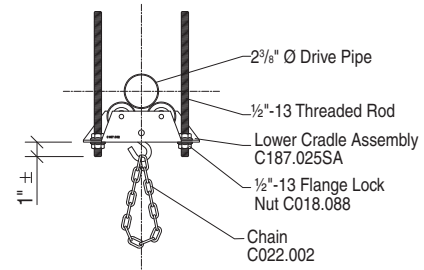

Figure 1
- ① Verify overall height and width with shop drawing to determine possible discrepancies.
- ② Attach winch support brackets to winch housing and install winch per location shown on shop drawing.
- ③ Install drive pipe support assembly (typically Z-Bracket and Flange Clamps) per locations shown on shop drawing.
- ④ Attach drive pipe support assemblies to Z-Bracket with threaded rod. Adjust assemblies vertically to proper height shown on shop drawing (see Fig. 1).
- ② In the down position make sure limit has been set to allow the fabric build up to be fully extended.
- ③ There are two basic vertical adjustments to this divider. One is the threaded rods attaching the drive pipe support assemblies to the drive pipe support angles. The other is the chain from the drive pipe support assembly to the top of the curtain (see Fig. 1).
- ④ If the belt tends to runoff in one direction when the curtain rolls up, instead of stacking up in a uniform pile, shim the belt within the pre-wrap (pre-wrap is described in step 11 above.) To shim: cut a 1/2" wide piece of belt from your excess belt. Unroll the curtain all the way and disengage down limit to expose pre-wrap on the drive. Position the 1/2" piece under an edge of pre-wrap (use the edge opposite the direction of runoff) and secure with double face tape. Roll the curtain back up a few turns to cover the pre-wrap and reset the down limit switch. Then continue rolling the curtain up. Repeat as necessary. No two curtains behave the same, so this is a trial and error procedure.